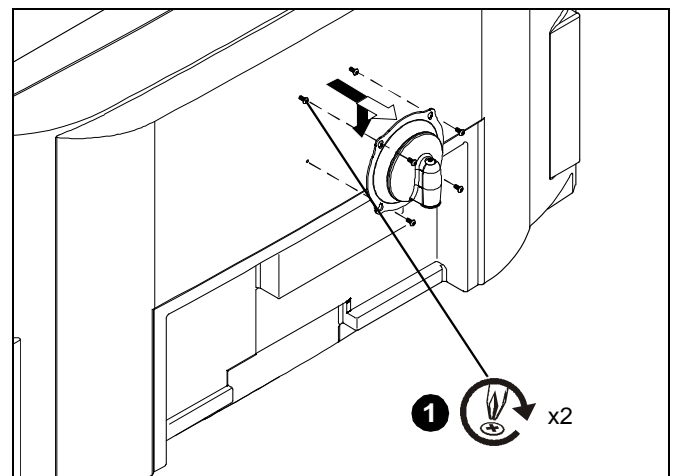

Figure 3
1. Start two M4 x 8mm Phillips pan head screws (included in hardware kit) into upper mounting holes in display back. (See Figure 3)